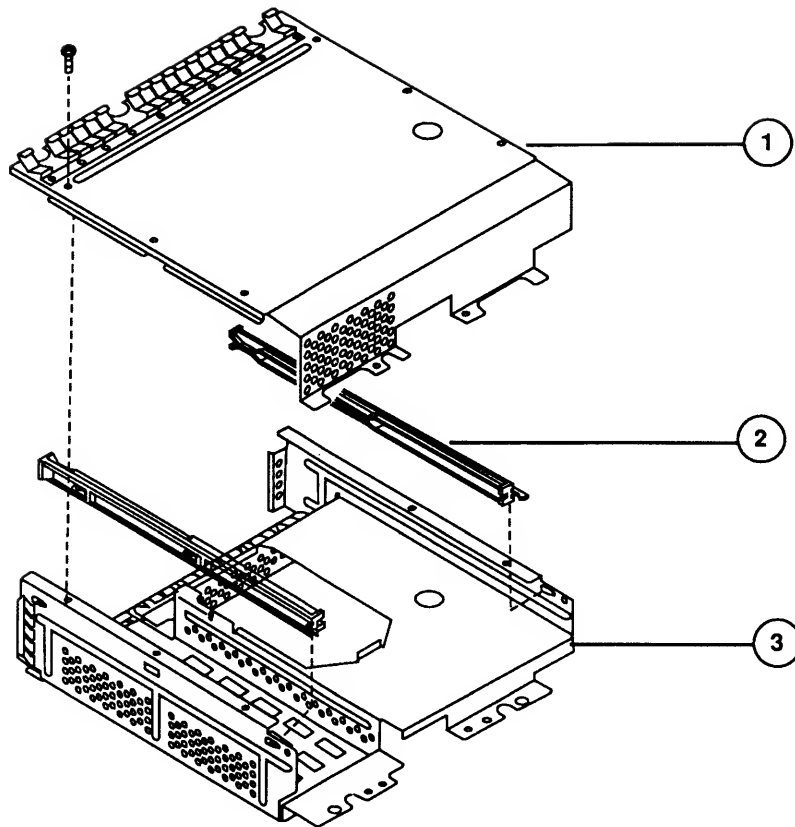

Figure 4
□ I/O SHIELD – LW NT/SC/NTR (Figure 4)